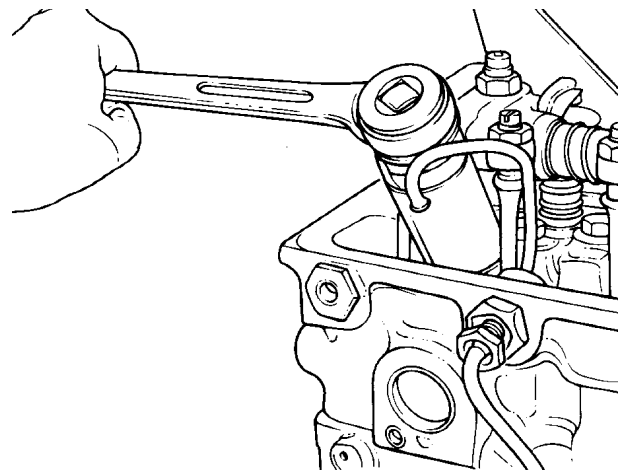

Figure 101 - Injector Thrust Bolt - Removal
- g. Remove the thrust bolt from the injector using the tube spanner (Table 2, Item 7), (Fig 101).